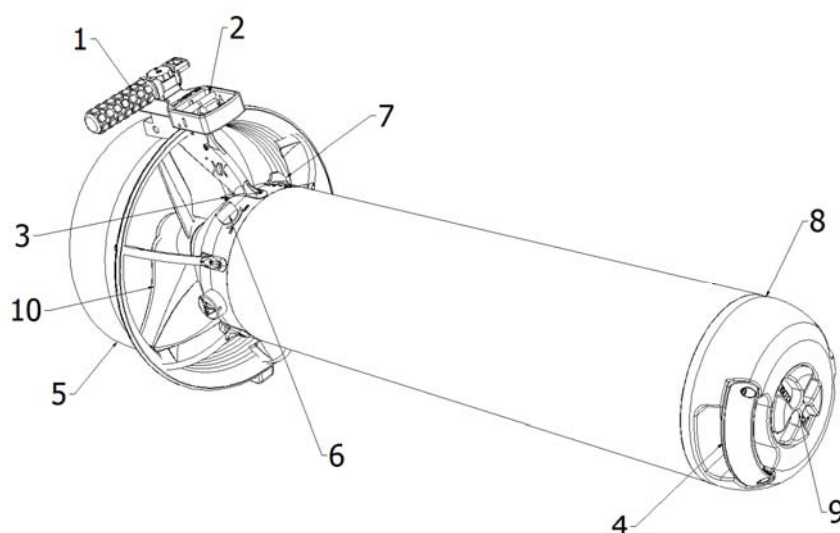

Figure 1
The ADV consists of a perfectly watertight, streamlined, hollow body, see figure 1, inside which the electric motor, rechargeable batteries and speed-reduction gear are housed. On the outside, two manoeuvring handles (1) are found at the rear, one of which has an integrated trigger (2) to control propeller rotation by means of a magnetic reed switch (3). At the front, a handle (4) is used for gripping and carrying the scooter. The propeller (10) is located at the rear end and is protected by a shroud which constitutes the flow conveyor (5). The main switch (6) for turning the power on and off and the speed regulator knob (7) are also found at the rear.
Turn the front fastening knob (9) counter-clockwise. When rotating the knob the nosecone (8) (see fig. 1) start to lift. Continue rotating until the nosecone detaches from the body. Remove the nosecone.
Turn the switch (6) (see fig. 1) fully clockwise without forcing it.
Grasp the two ADV handles (1) (fig. 1) or, if using the tow cord, hook the bolt-snap to the crotch strap of your harness.